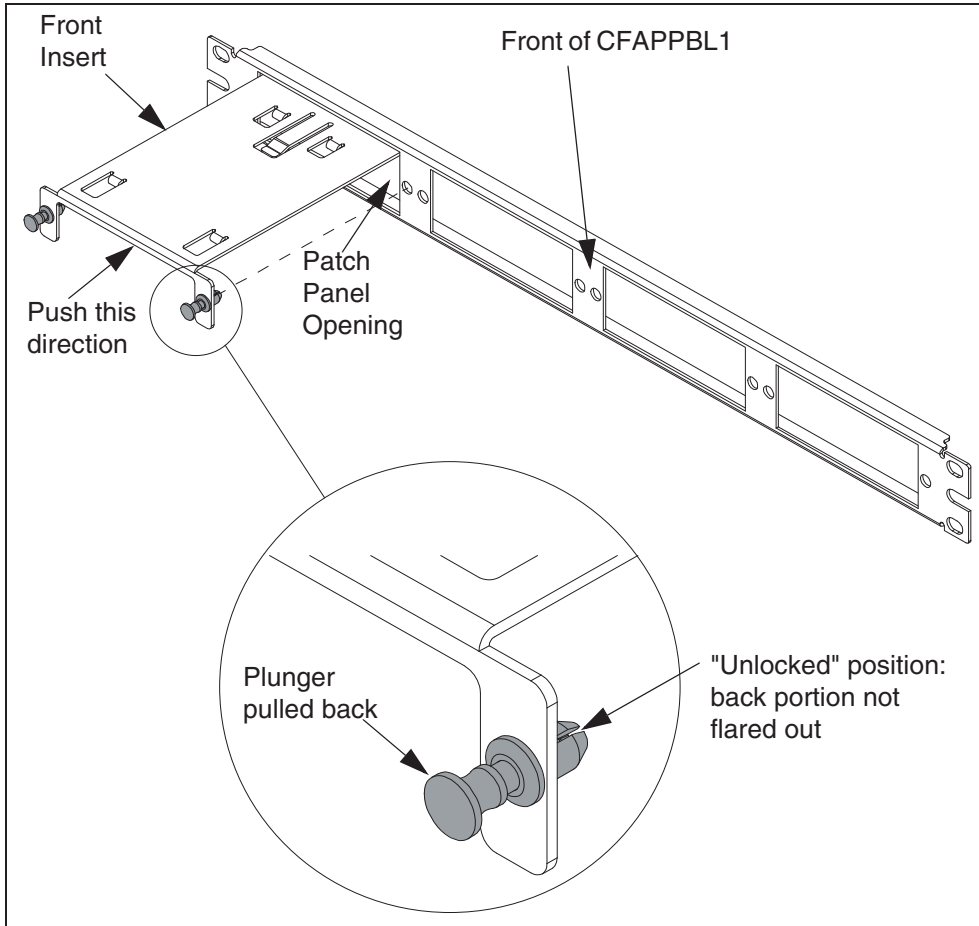

Figure 4:
2.1 Slide the front insert into the patch panel opening (see figure 4) from the front of the patch panel in the orientation shown. Make sure the plungers attached to the front insert (see figure 4) are pulled back to the "unlocked" position when the FLEX-OPTI-1RU is slid into the proper holes.